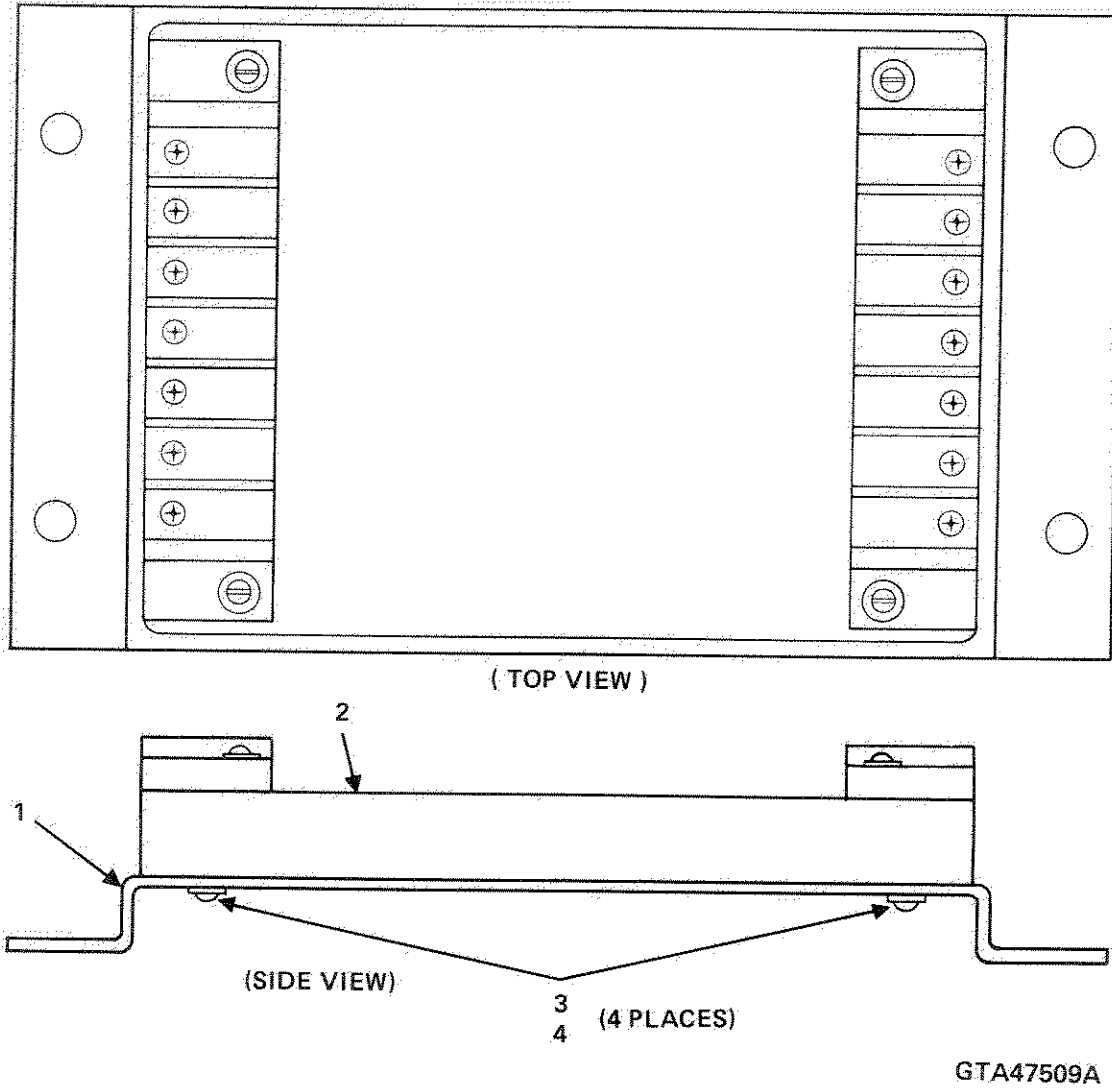

Figure 6-126. Dc-to-Dc Converter (77C723326G1)
1. Disassembly procedure (Figure 6-126).
- a. Remove power supply (2) from chassis (1) by removing screw (3) and lockwasher (4) four places. Set screws, lockwashers, and chassis aside.
- b. Refer to TO 31C1-4-147-1 for power supply PS1 (2) disassembly.
2. Assembly procedure (Figure 6-126).
- a. Refer to TO 31C1-4-147-1 for power supply PS1 (2) assembly procedure.
- b. Place power supply PS1 (2) on chassis (1) and secure four places with screws (3) and lockwashers (4) retained in step 1.a.